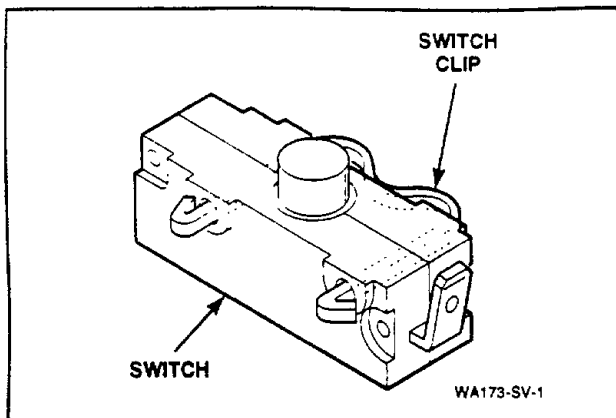

Figure 42
- Remove the switch clip from the old switch and place through holes in new switch, *Figure 42*.